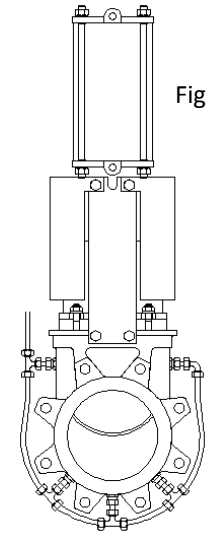

Fig. 7
-Flushing Holes in Body (Fig. 7): Several holes can be drilled in the body to flush air, steam or other fluids out in order to clean the valve seat before sealing.